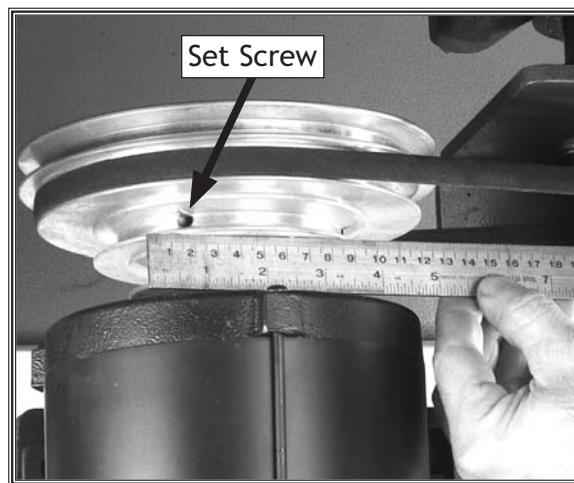

Figure 53. Checking pulley alignment.
3. Check the alignment with a straightedge. If the pulleys are in alignment, the straightedge should touch the two sides of each pulley evenly, as shown in **Figure 53**.
Note: You can also make small adjustments in the motor pulley alignment by raising or lowering it along the motor shaft. To do this, loosen the two set screws (one is shown in **Figure 53**) which are in the groove of the middle motor pulley and move the pulley into position. Tighten the set screws when the alignment is satisfactory.